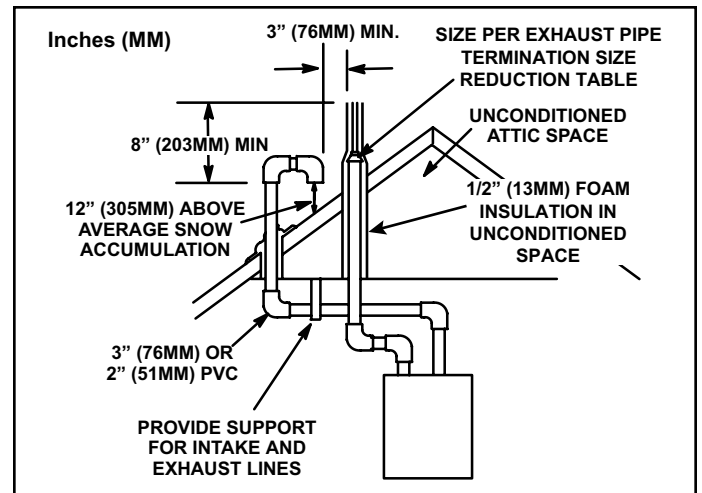

Figure 36. Direct Vent Roof Termination Kit (15F75 or 44J41)
Intake and exhaust pipes may be routed either horizontally through and outside wall or vertically through the roof. In attic or closet installations, vertical termination through the roof is preferred. Figure 36 through Figure 44 show typical terminations.
3. On roof terminations, the intake piping should terminate straight down using two 90° elbows (see Figure 36).